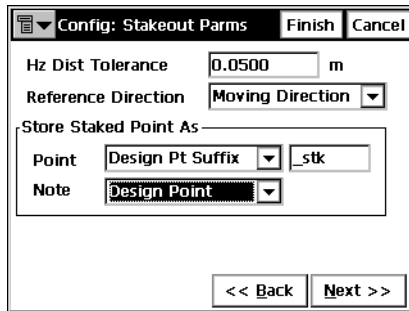

Figure 3-43. Config: Stakeout Parm's
4. Set Stakeout Parameters: select the horizontal distance tolerance, reference direction, and rule for generating the point name, and Note of the staked point (if necessary), then tap **Next** (Figure 3-43).